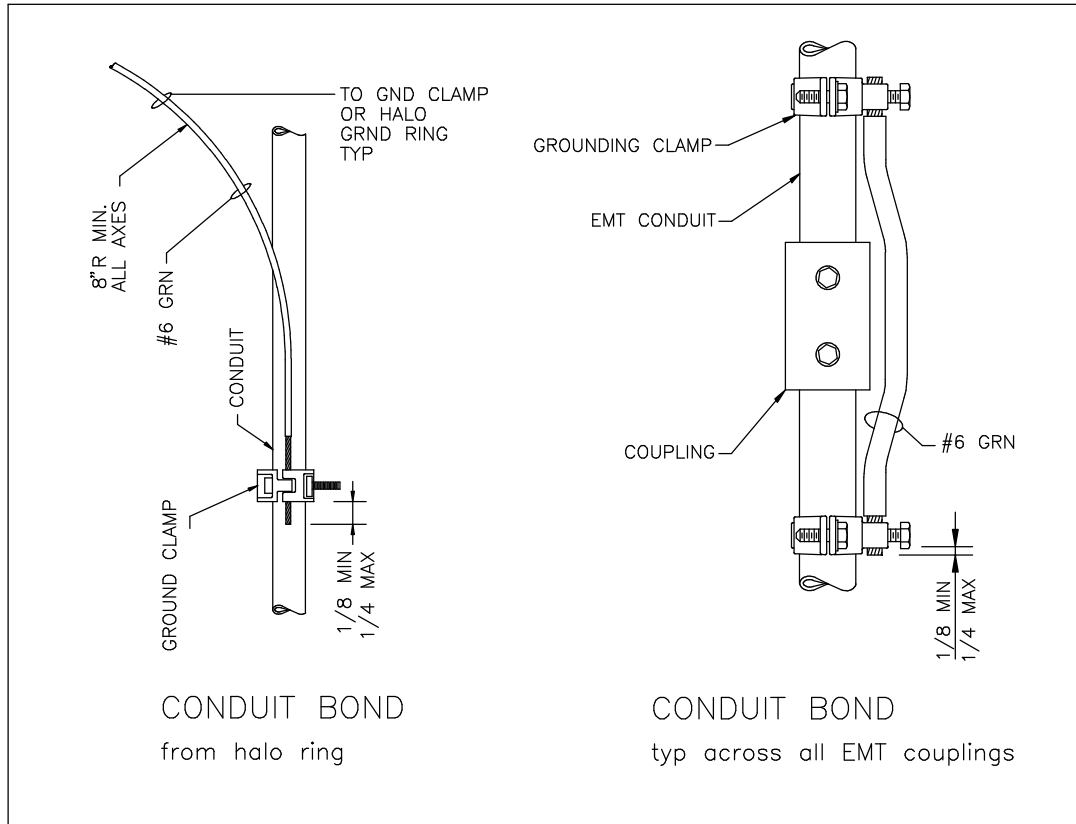

Figure 5 - Typical Conduit Grounding
7.5 Conduits and conduit couplings shall be bonded to the ground system in a manner consistent with attached Figure 5.